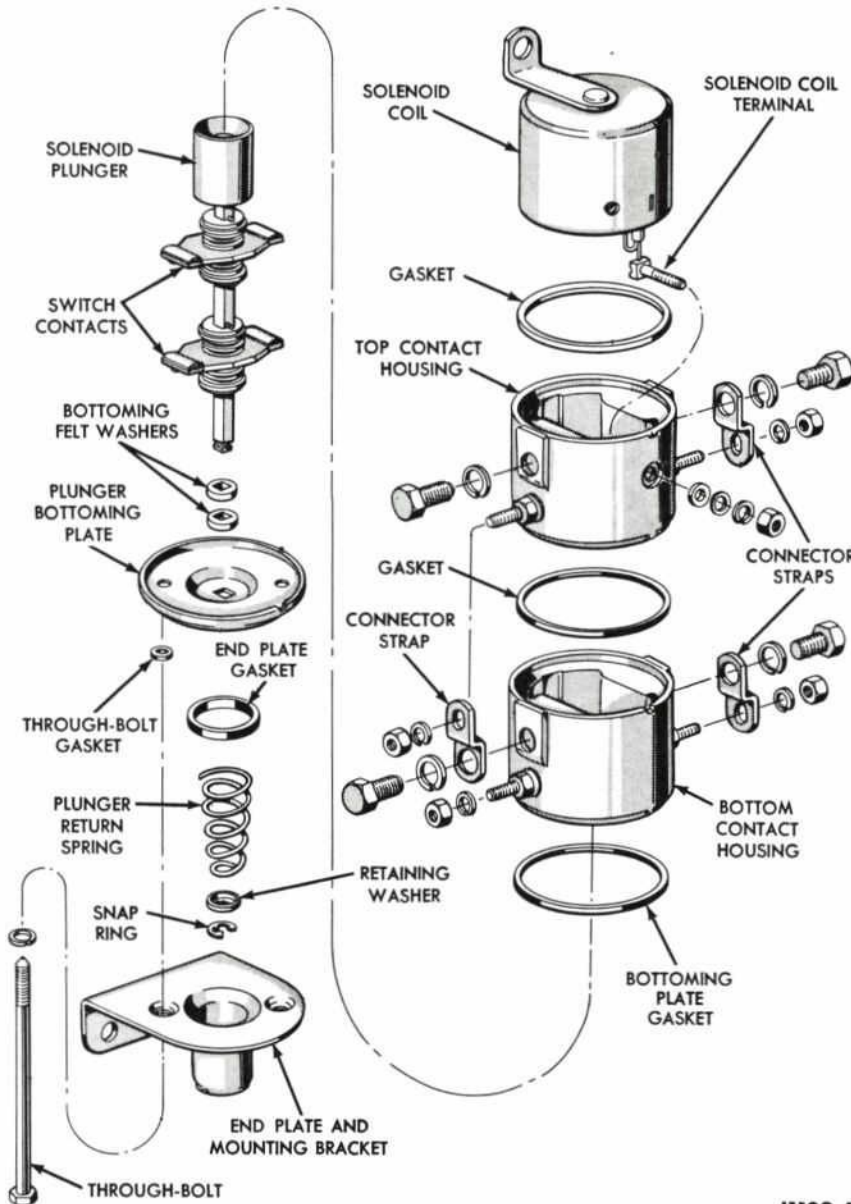

FIG. 59—Disassembled Starter Relay
A disassembled view of the starter relay is shown in Fig. 59.
6. Place a new gasket in the end plate recess. Place the through bolts with lockwashers through the end plate holes. Place a new gasket on each through bolt. Position the end plate (Fig. 59) on the bottom housing and tighten the through bolts. Check all of the fitted surfaces and make certain that the various gaskets are in position before tightening the through bolts.
7. Install the connector straps as shown in Fig. 59. The straps connect terminals 4 and 6, 3 and 5, and 7 and 9.